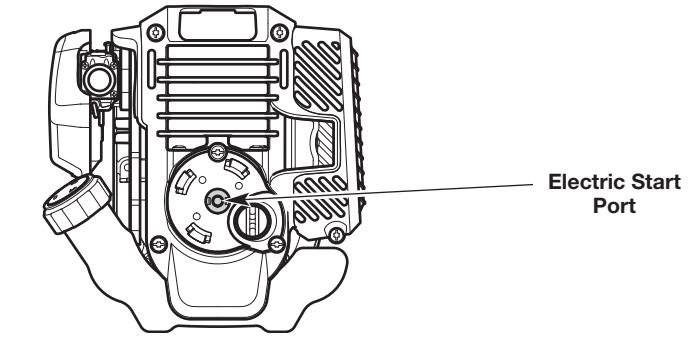

Fig. 14
3. Insert the electric start accessory into the electric start port (Fig. 14).